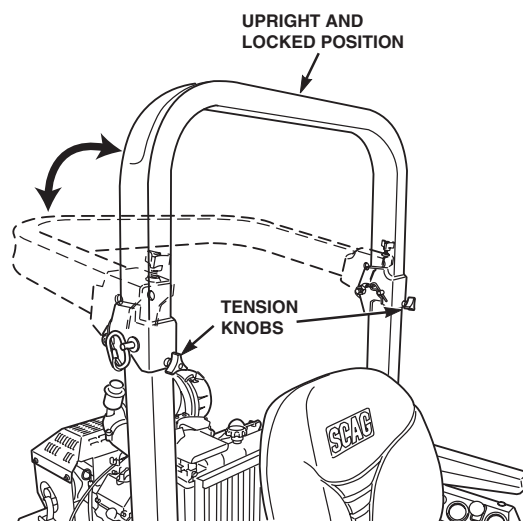

Figure 2-1 Foldable Roll-Over Protection System
1. To lower the roll bar, loosen the tension knob on both the left hand and right hand bar. See Figure 2-1.